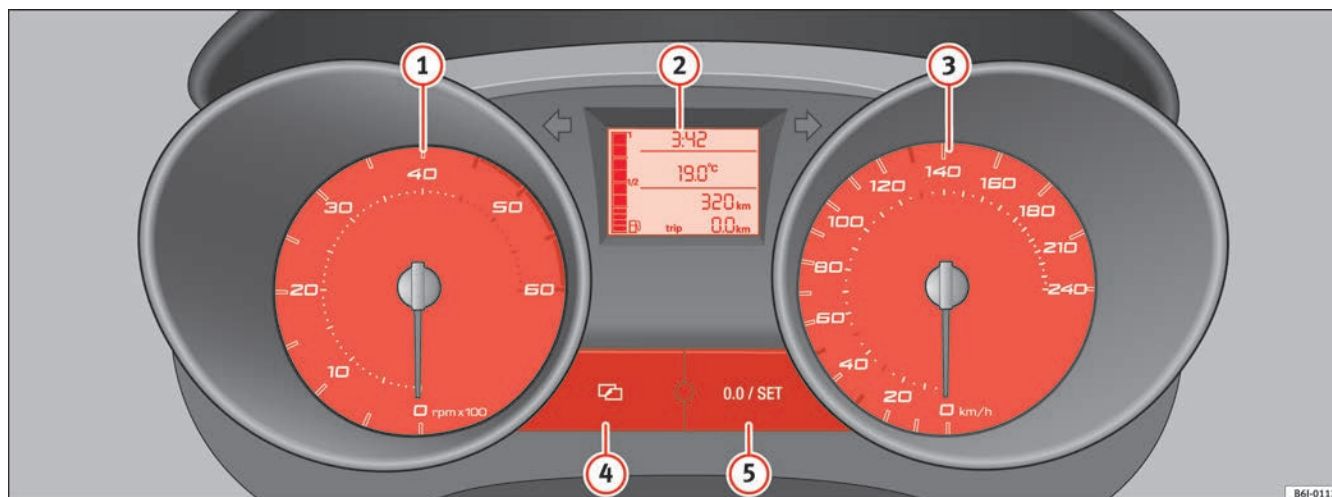

Fig. 30 Detailed view of instrument panel: instrument panel
The start of the red zone ⇒ page 51, fig. 30 ① indicates the maximum engine speed operating at service temperature. However, it is advisable to change up into a higher gear, move the selector lever to D or lift your foot off the accelerator before the needle reaches the red zone.
- To alter the time, press button ④ ⇒ page 51, fig. 30. The option “hour” flashes on the digital display. Set the hour from button ⑤ “set” ⇒ page 51, fig. 30. ►
⇒ page 51, fig. 30 (6).